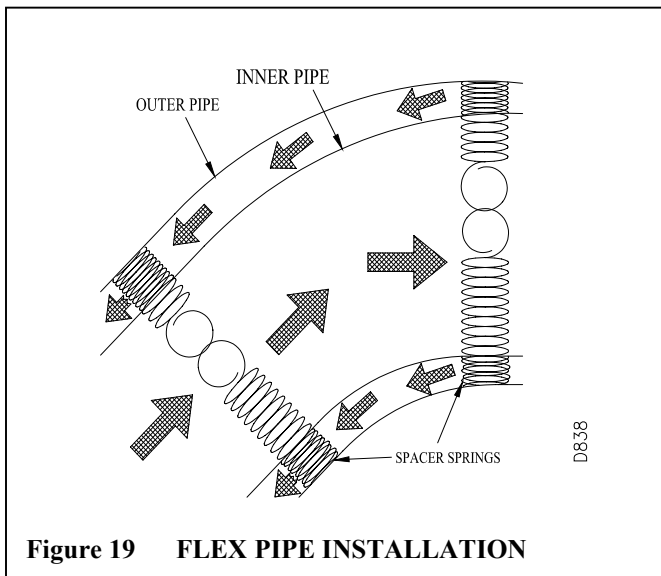

Figure 19 FLEX PIPE INSTALLATION
Flexible vent pipe must be installed with spacer springs every 12" and especially near each bend (See figure 19). Make the 5" inner pipe connection to the unit with the clamp provided. Install the spacer springs by looping them around the 5" pipe and connecting at both ends. Slide the 8" outer pipe over the springs and inner section and continue adding sections in this manner. All connections need a minimum of 1 1/4" (32mm) overlap, must be clamped tightly and sealed with high temperature silicone sealant as specified in the warning statement on page 7.
3. Cut a hole in the roof using the locating hole as a center point. (Cover any exposed open vent pipes before cutting a hole in the roof). The 12 1/2" x 12 1/2" hole must be measured on the horizontal; actual length may be larger depending on the pitch of the roof. There must be a 1" clearance from the vent pipe to combustible materials. Frame the opening as shown in Figure 19.